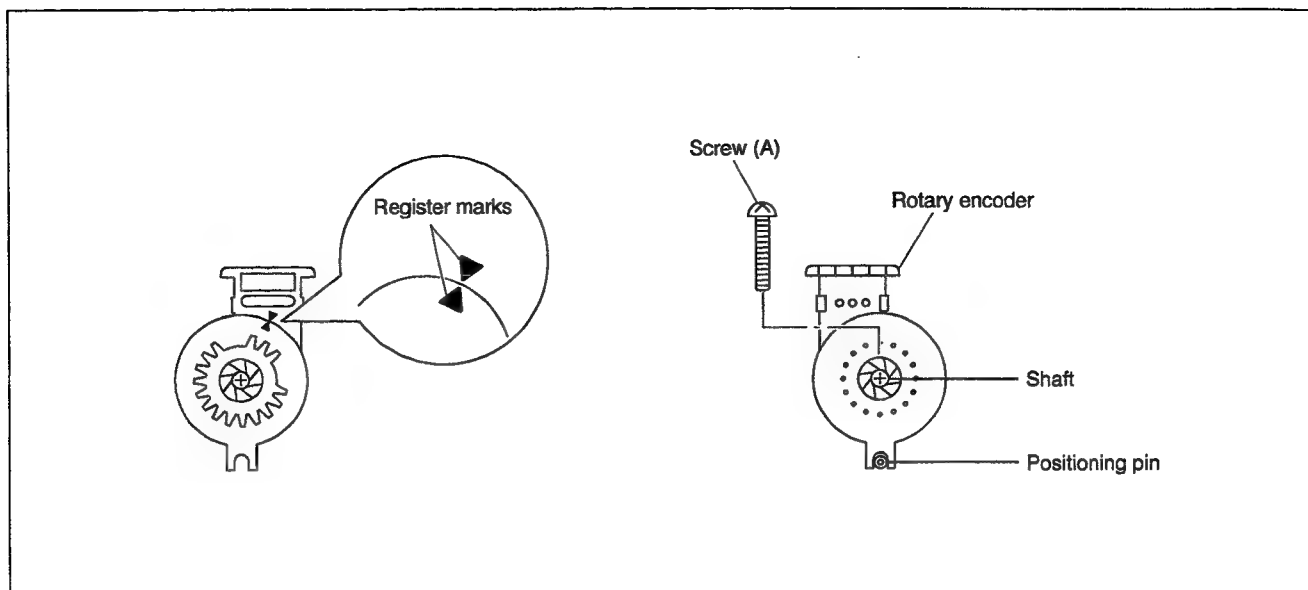

Fig. 2-3-3
- (1) Make sure that the mark E of the control plate is in alignment with the mark ▼ of the loading arm gear shaft and bring the register marks on the rotary encoder into alignment as indicated in Fig.2-3-3.
- (2) Turn over the rotary encoder with its register marks kept in alignment and install it by fitting on the shaft of the rotary encoder guide and the positioning pin.
- (3) Tighten the screw (A) to complete the installation.